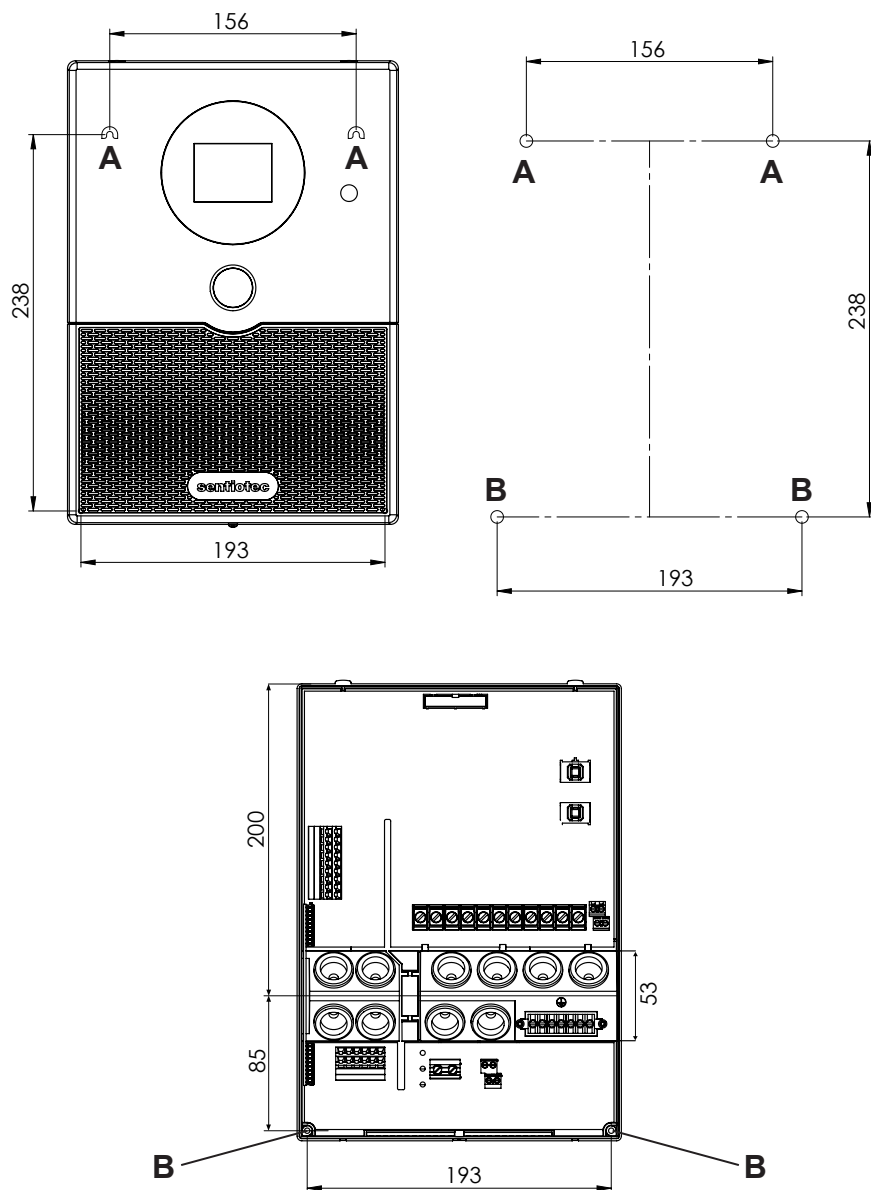

Fig.1 Position of the attachment device and the installation holes (dimensions in mm)
1. Screw two chipboard screws (3 x 25 mm) into the wall of the sauna at a height of approx. 1.70 m and leaving a protruding length of 7 mm. The two screws must be placed at a distance of 156 mm from each other (see **Fig.1**).
4. Fasten the sauna control unit onto the cross-head screws using attachment device **A** as an aid (see **Fig.1**).
5. Screw two chipboard screws (3 x 25 mm) into the lower fastening holes **B** (see **Fig.1**).